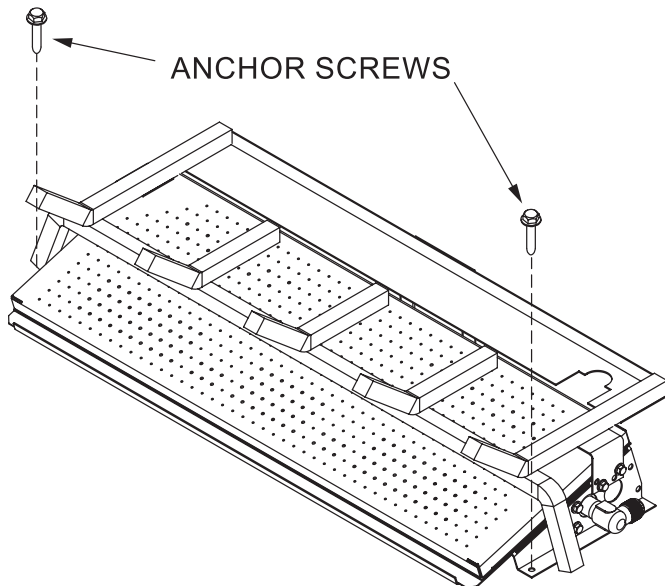

Figure 3
2. An anchor hole is provided in the two bottom side members of the grate frame. After centering the grate correctly, mark the hole positions on the fireplace/firebox floor. Drill two (2) 5/32" diameter holes approximately 1-1/2" deep for masonry screws or 1/8" hole for sheet metal screws.
3. Anchor the grate to the fireplace/firebox floor using the screws provided. Refer to **Figure 3**.